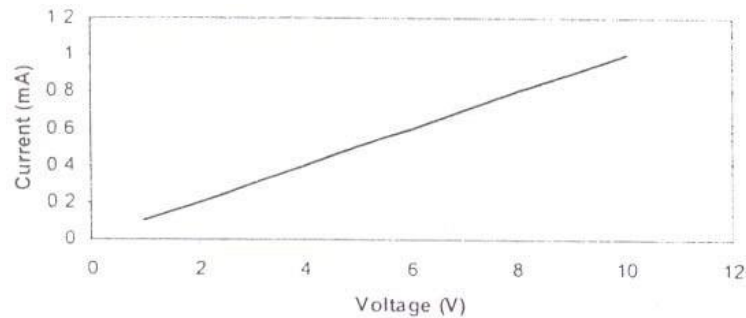

Fig. 5 Voltage Vs. Current graph
10. Tabulate the values and plot the graph V_{BIAS} Vs I_L . The sample graph is shown in Fig.5